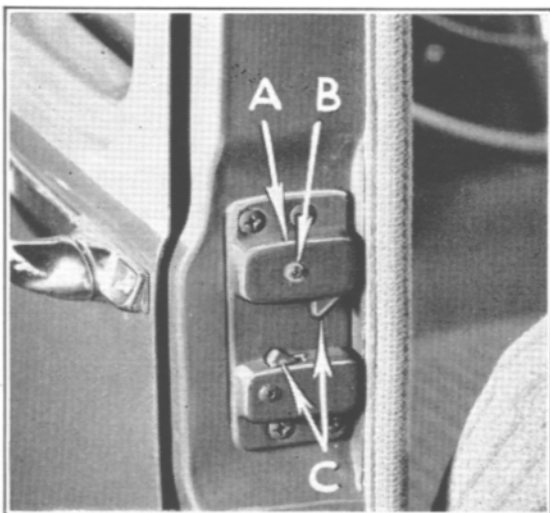

Figure 58
Door strikers and bumpers are of the adjustable type. In their normal setting the door should raise about $1/32''$ as the door dovetail rides over the pillar striker (A), Fig. 58. The dovetail is stationary on the door, while the striker is adjustable for movement up and down and sideways. When properly adjusted the doors should close as a slight pressure is applied.
Door dovetail wicks and door striker wicks (B), Fig. 58, should receive a few drops of light engine oil every 1,000 miles.
Also lubricate door striker pawls, (C), Fig. 58, every 1,000 miles using a pencil lubricant.